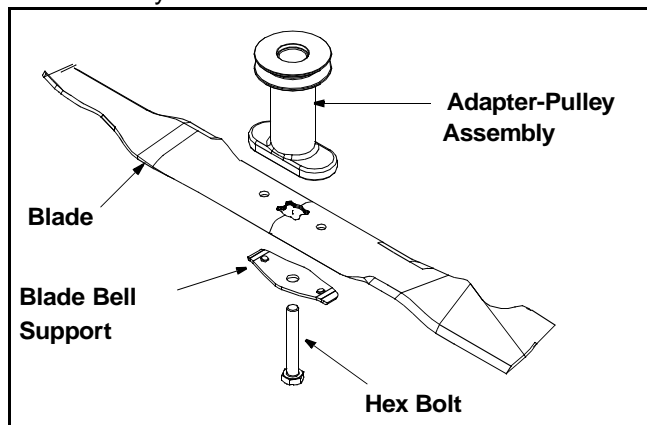

Figure 13
- Remove the hex bolt which holds the blade adapter-pulley assembly to the engine crankshaft. See Figure 13 . Remove the pulley assembly, blade and the bell support from the crankshaft.